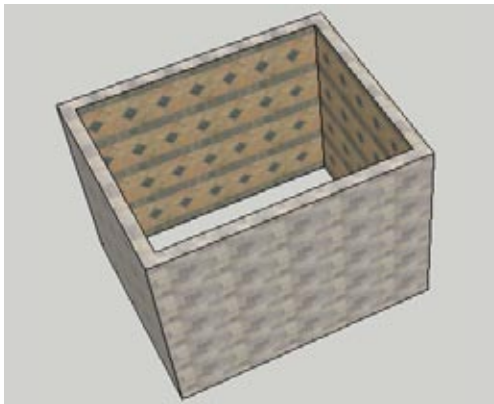

Figure 7-49
11. In blank space, create a box and offset the top face so that the walls are thicker than 5.5 inches. Push down the center of the box to create the 3D walls (Figure 7-49). (You could also create a rectangle and offset it, and then pull up the resulting border face.)